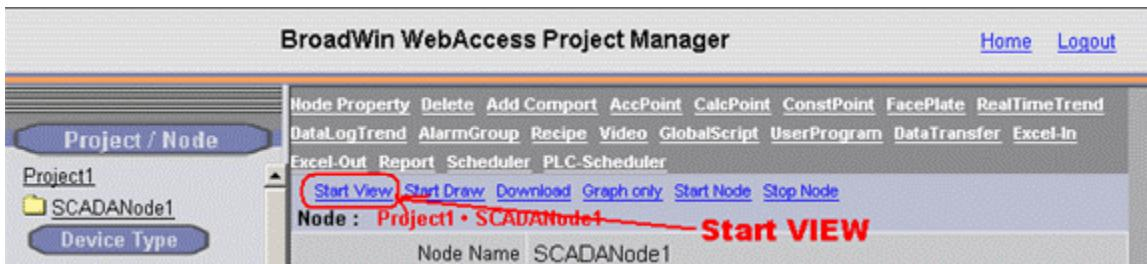

Figure 4.37- Start VIEW from Project Manger
- Select Start View (Figure 4-37).